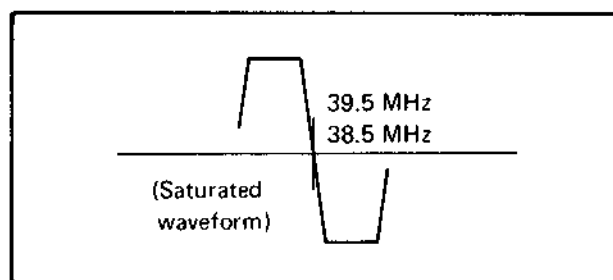

Fig. 5-51
8. Confirm that both the top and bottom of curve are regulated in level even when input level is lowered by 3 dB as shown in Fig. 5-51.